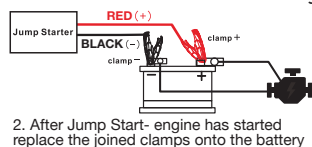
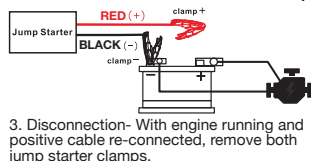

Fig 8
Fig 9
**WARNING!** Ensure the Positive Battery Clamp **RED** (1) or vehicles battery lead terminal does not come in contact with the vehicles body or other metal components in the engine bay.
4. Press the ON / OFF Button (4) for approx. 2-4 seconds to activate the Bypass Mode.
6. As soon as the engine starts, reconnect the joined positive leads to the positive battery terminal (Fig 8). Once on the battery terminal, disconnect the Positive Battery Clamp **RED** (1) from the positive battery lead (Fig 9)